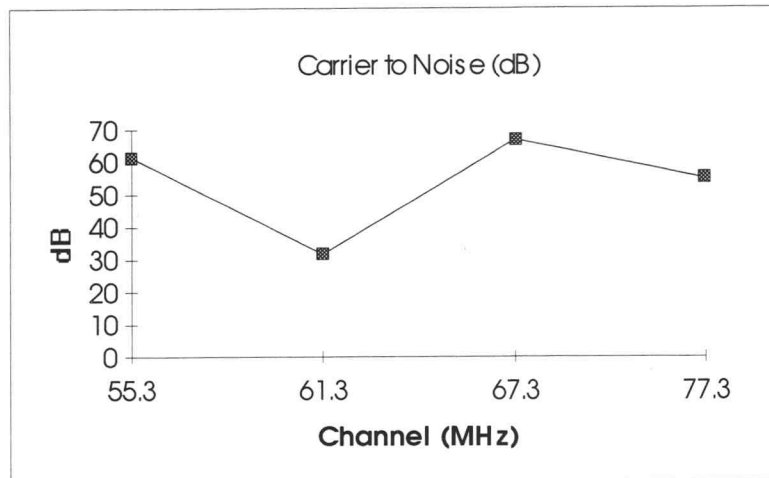

Figure 6-11. Graph of the data for the Carrier to Noise Ratio for four channels. (Generated by Excel.)
- Use Excel to make a graph of the measurement results' trend, similar to the one shown in Figure 6-11. (Use the Excel documentation to help you make the graph if necessary.)